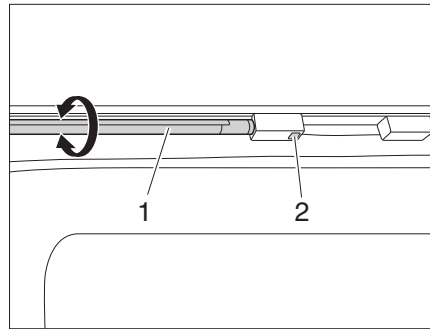

Fig. 44 LED light strips
- Switch the LED light strip (Fig. 44,1) on/off at the switch (Fig. 44,2).
- Grasp the LED light strip (Fig. 44,1) at the light fixture and turn it.